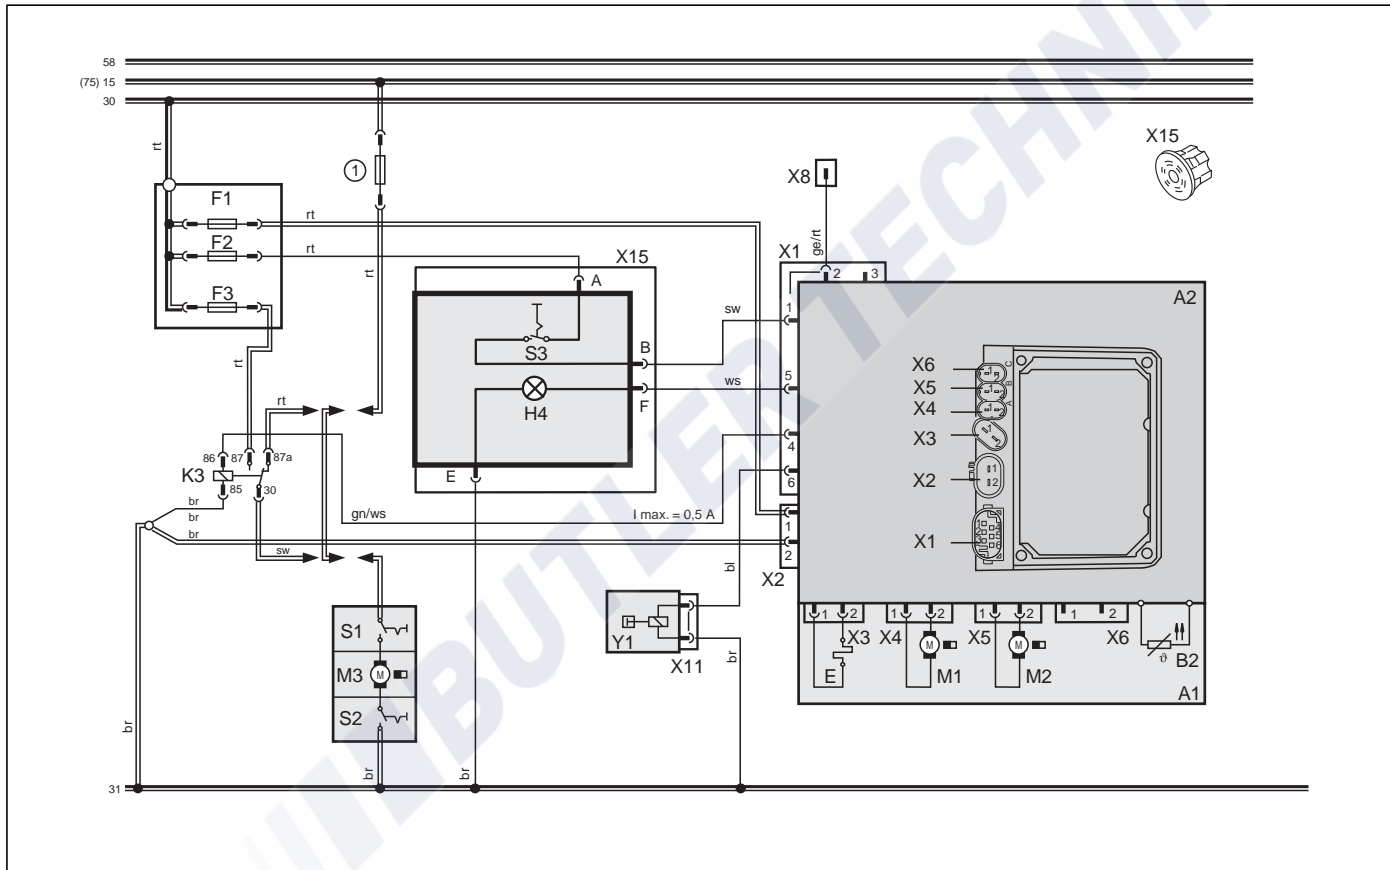

Fig. 18 Circuit diagram for Thermo 50, 24 V switch (legend see page 45)
- Switch see circuit diagram Fig. 18.